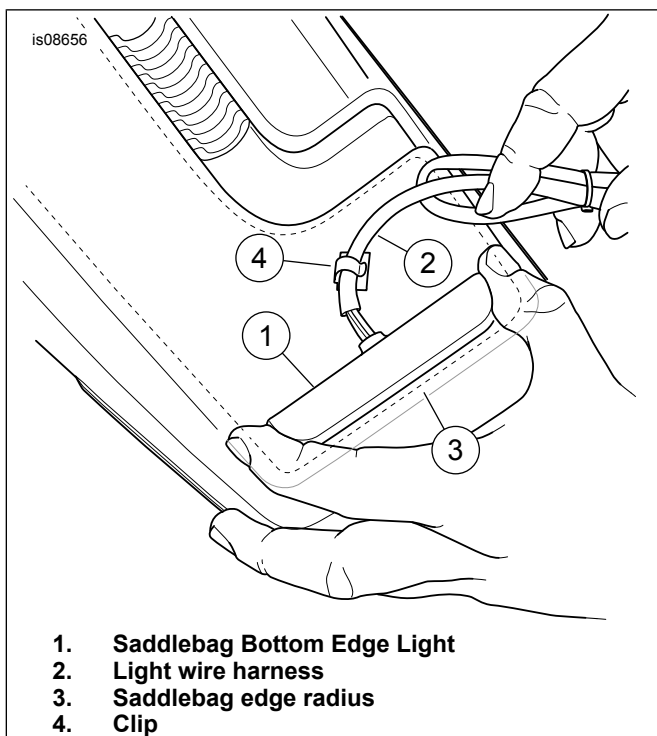

Figure 1. Install Saddlebag Bottom Edge Light
5. See Figure 1. With the adhesive backing still in place, test fit an edge light:
- a. Align the saddlebag bottom edge light (1) with the edge of the radius (3) on the bottom of the saddlebag.
10. See Figure 1. Secure wiring harness (2) near edge light with a retaining clip (4).